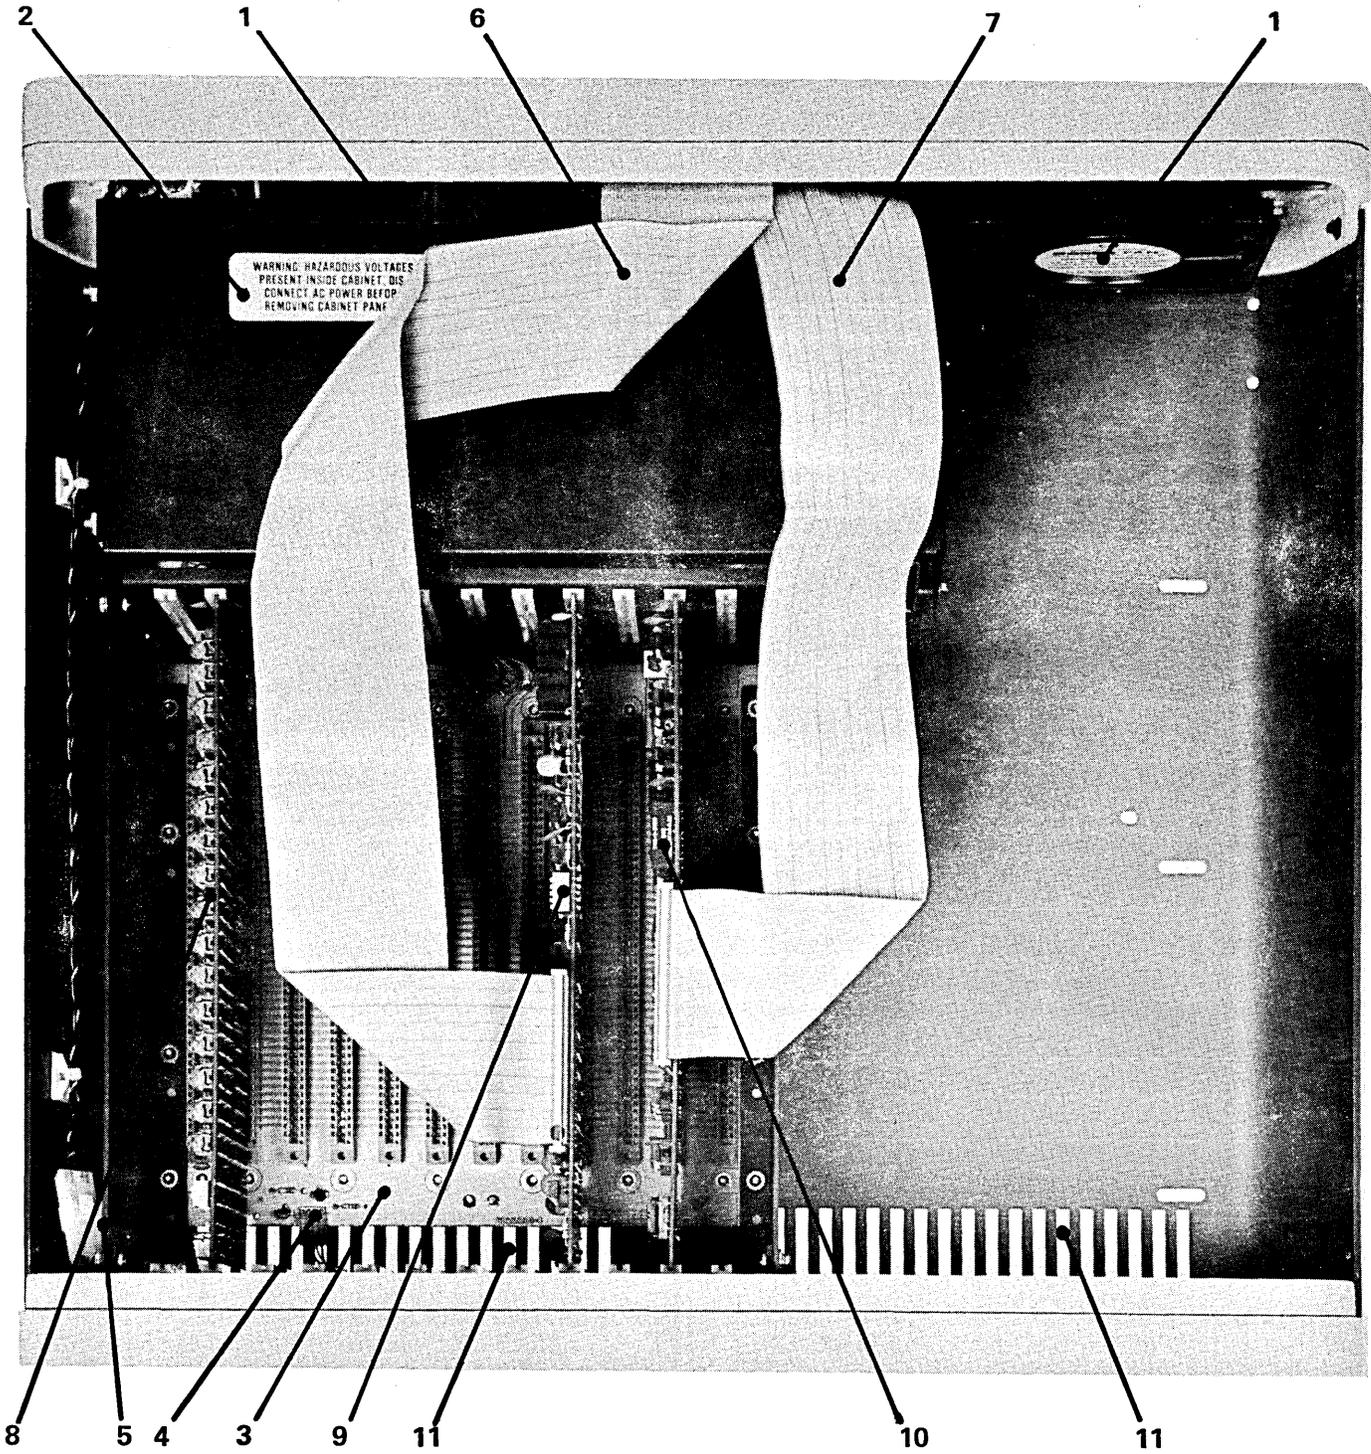

Figure 2-3 – 5100 Computer – Interior
2.07 A four-inch fan(s) draws heat dissipated internally out the rear panel. Air is drawn into the 5100 cabinet through louvers provided in the bottom of the cabinet. Refer to Figure 2-3.
2.10 Refer to Figure 2-3 for the description which follows. The card cage furnishes a rigid support structure for the S-100 Bus cards when they are inserted into the S-100 Bus. The Motherboard PC Assembly contains 12 S-100 Bus receptacles or jacks, J1 through J12. Each jack has 100 separate pins. The actual bus consists of 100 parallel traces on the pc board connecting the same pin on each jack. Each line has a ground trace between it and the adjacent line to minimize coupling between signal lines.
**2.18** Input/Output (I/O) Signals not affecting the S-100 Bus are transferred over special multi-pin connectors normally located at the top of the pc assembly. Cable harnesses which mate with these connectors are normally made up of flat multi-pair or flat twisted multi-pair cable. Figure 2-3, Keys 6 and 7, show typical flat I/O cables.